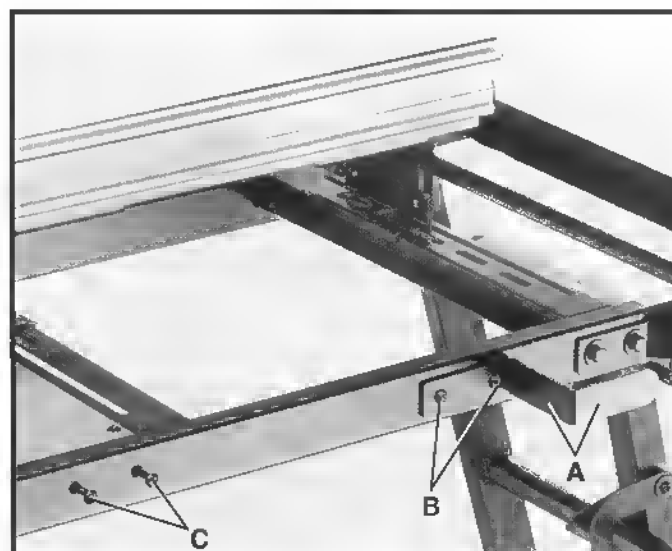
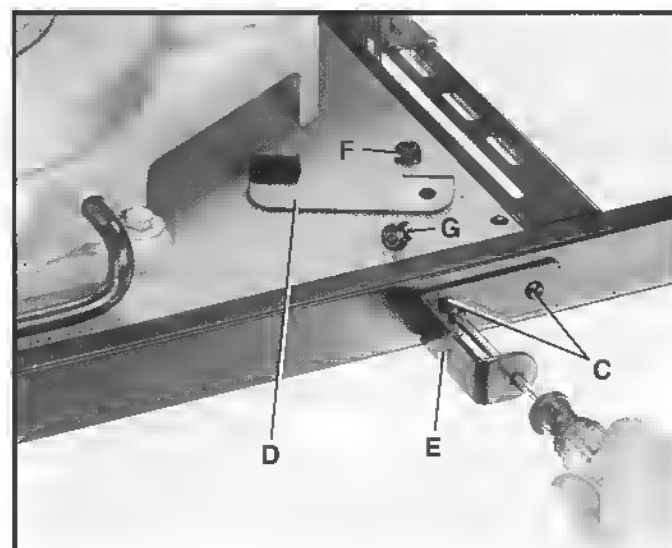

Fig. 39
Fig. 40
1. Assemble right cord wrap bracket (A) Fig. 39, to the rear of saw stand as shown using two 16mm long self-tapping screws (B).
2. **NOTE:** Before assembling left cord wrap bracket to the rear of the saw stand and to make assembly easier, remove retainer (O) Fig. 40, from left cord bracket (E) by loosening and removing lock nut (F) and button head screw (G). Then start the remaining two 16mm long self-tapping screws (C) Fig. 39, into the two holes at the back of the saw stand to create a threaded hole. Back the two screws (C) Fig. 39, out of the holes and assemble the left cord bracket (E) Fig. 40, to the saw stand using the same two screws (C) as shown.
3. Reassemble retainer (O) Fig. 40, to left cord wrap bracket using button head screw (G) and locknut (F).